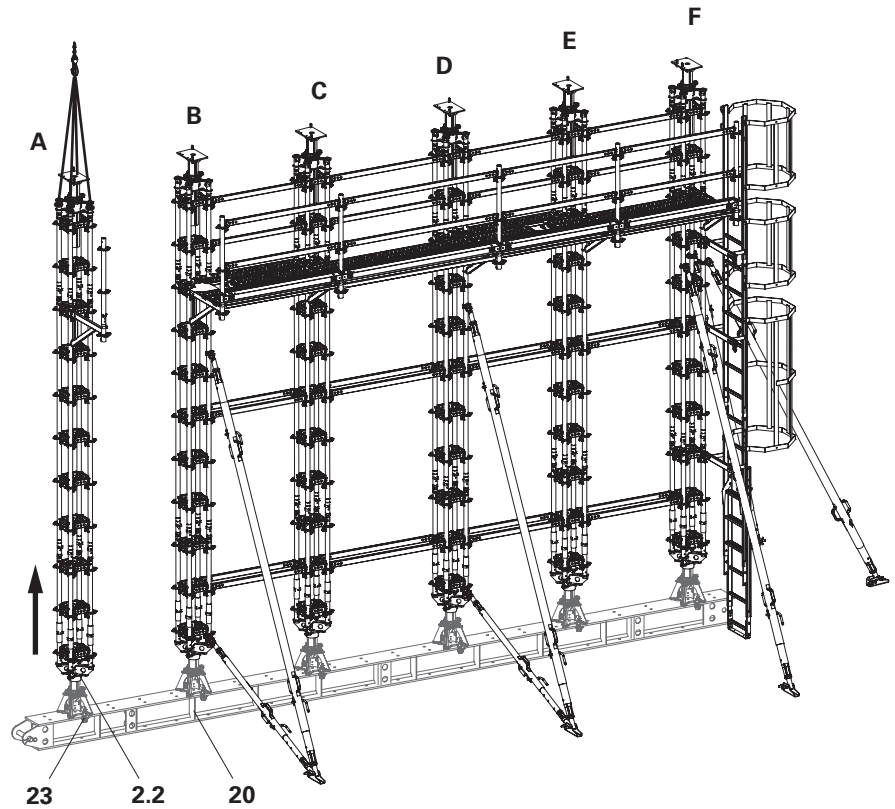

Fig. A7.11
5. Lift the Heavy-Duty Prop HD and set it down. (Fig. A7.11)